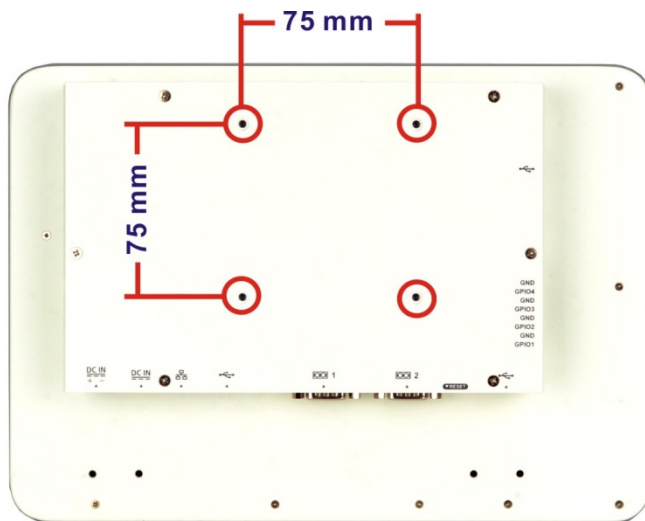

Figure 3-9: Arm Mounting Retention Screw Holes
- Step 3:** Align the retention screw holes on the mounting arm interface with those in the IOVU-210AD-RK39, as shown in **Figure 3-9**.
Step 1: Line up the threaded holes on the system rear panel (**Figure 3-9**) with the screw holes on the monitor stand mounting plate.